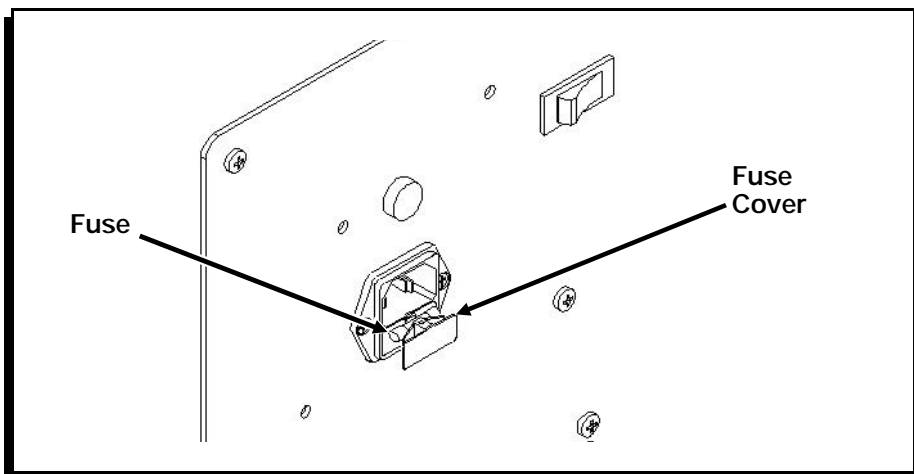

Figure 44
3. Use a flathead screwdriver to carefully pry open the fuse cover (located under the power socket on the front of the Station). (Figure 44.)
4. Slide the fuse holder out and remove the fuse. (Figure 44.)
5. Insert a 250VAC, 6.3-amp, slow blow fuse into the fuse holder until the fuse snaps into place. (Figure 44.)
6. Push the fuse holder until it snaps back into place. (Figure 44.)